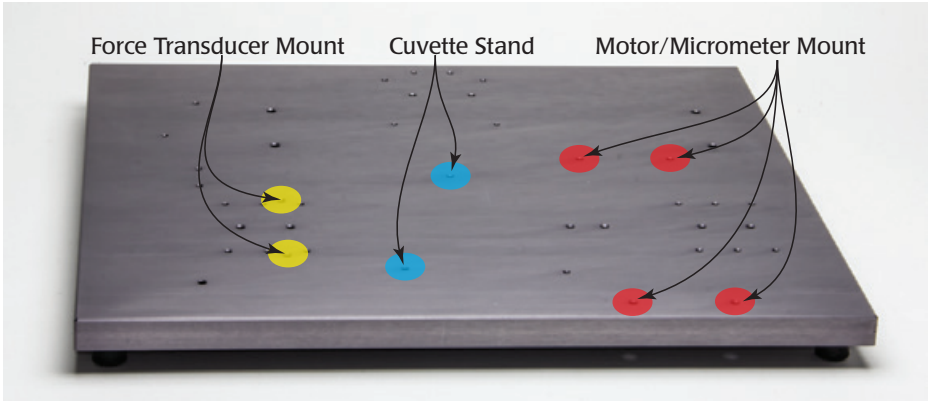

Fig. 9—Position the SI-MKB base plate as shown here so the motor/micrometer mount holes are on the right.
plate (Fig. 9). The force transducer mount must face the cuvette. Insert the two mounting screws through the mounting holes in the base of the stand and into the two holes on the left side of the base plate. The stand can slide forward or back to align the force transducer with the cuvette and the motor/micrometer. When it is in position, use an hex wrench to tighten the screws.
5. To install the motor/micrometer mount assembly, first install the four pedestals. Screw them into the four (red) holes (Fig. 9) on the right side of the base plate.